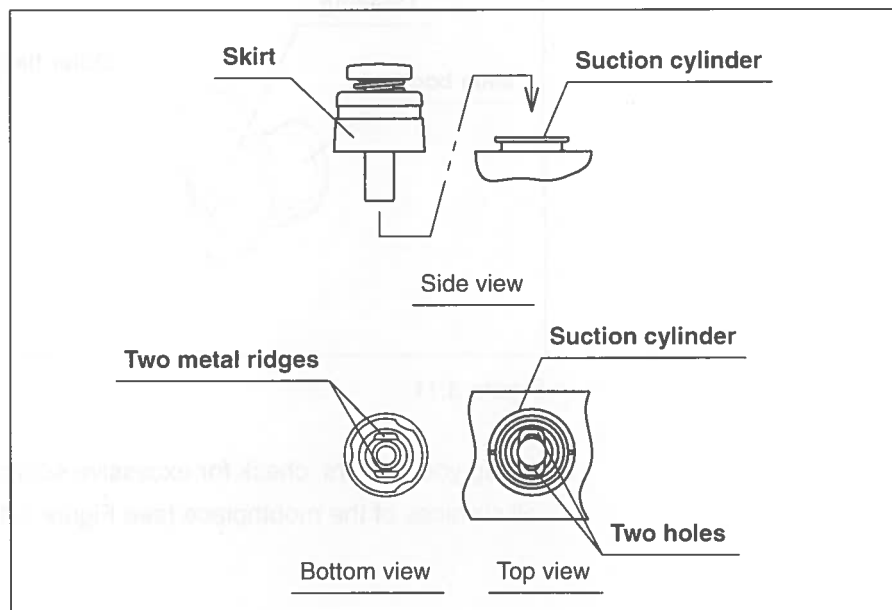

Figure 3.12
2. Attach the suction valve to the suction cylinder of the endoscope (see Figures 3.12 and 3.13). Confirm that the valve fits properly without any bulging of the skirt.